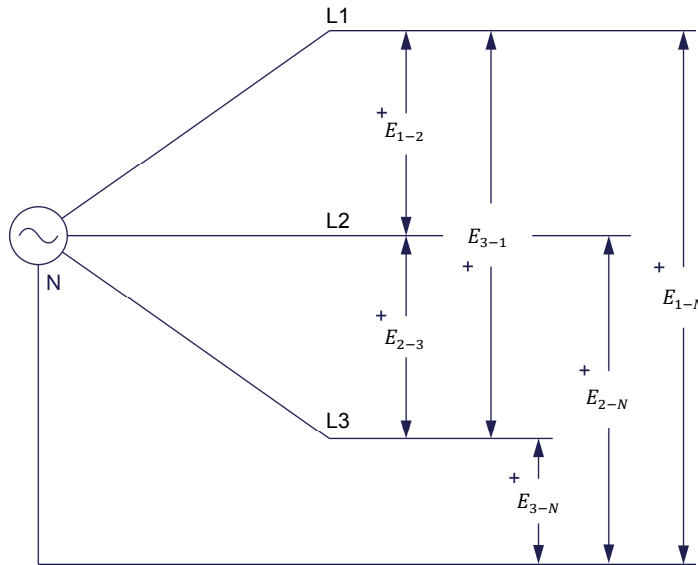

Figure 5. Line and phase voltage measurements.
5. Set up the circuit shown in Figure 5.